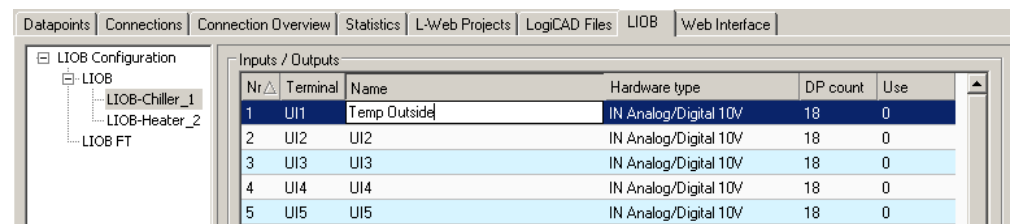

Figure 35: Change L-IOB terminal names for your installation.
2. Select a L-IOB device in the tree on the left-hand side and enter names for the terminals by double-clicking into the **Name** column as shown in Figure 35.